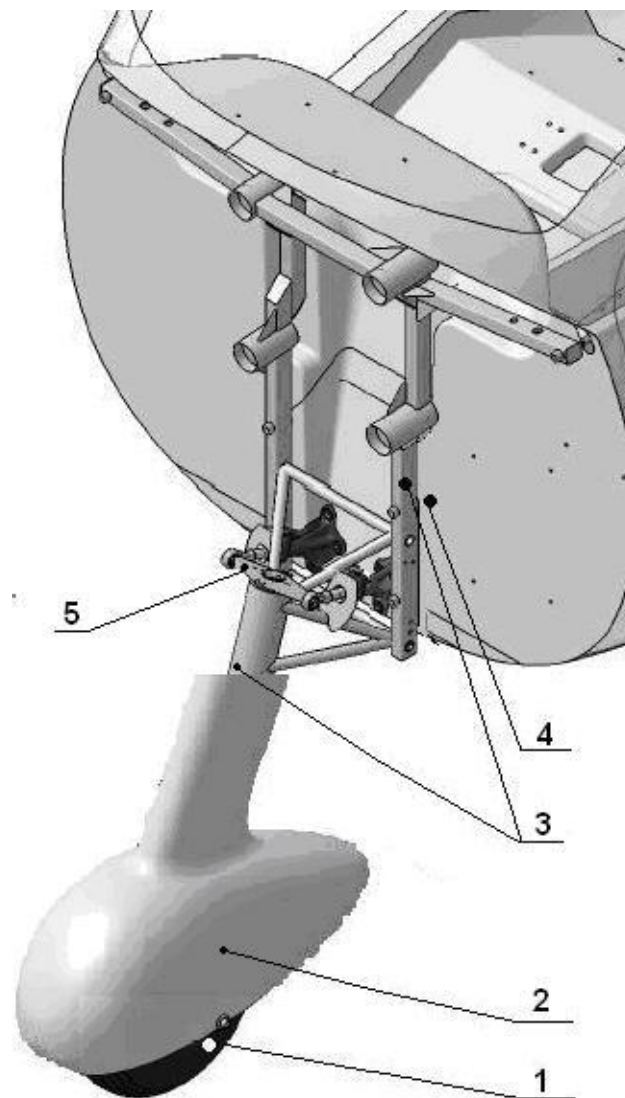

Fig. 1
- 1) The strut and fork for damages, dents, cracks, paint detachment (Fig. 1). Pay specific attention to welding seam areas. Check for obvious damage to all visible parts each time the fairing is removed (Fig. 1, item 2).
- 2) The engine mounts for damage, dents, cracks (Fig. 1, item 3). Pay specific attention to welding seam areas. Check all visible surfaces before each flight (inspect engine compartment visually each time the cowlings are removed).
- 3) The firewall for damage, dents, cracks, delaminating (Fig. 1, item 4). Pay specific attention to the areas where the engine mount is attached to the firewall. Check all visible surfaces each time the cowlings are removed.
- 4) For all items above, thoroughly inspect with all removable items off at least (cowlings, fairing (Fig. 1, item 2) and so on). In case of a hard landing, inspect right after the landing.
Shock absorber (Fig. 1) for binding and unusual noises while operating (all three wheels must be on the ground):
Inspect the fork for play, binding and unusual sounds while rotating (Fig. 1, items 3) with the rudder pedals: